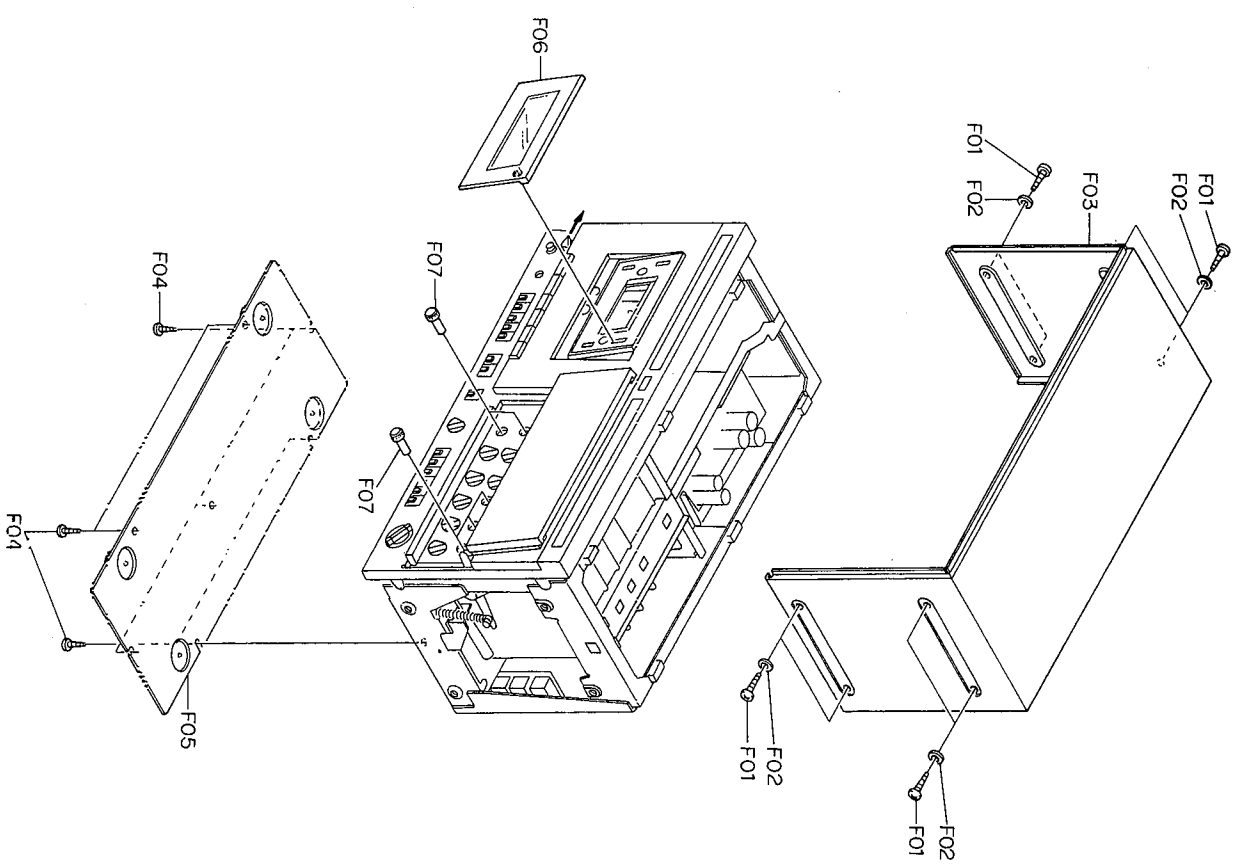

Fig. 2.1
- Refer to Fig. 2.1.
(1) Remove F01 and F02, then disassemble F03 (Top Cover Ass'y).
(1) Remove F04, then disassemble F05 (Bottom Cover Ass'y).
(1) Press the Eject Button as the arrow mark to open the Cassette Case Ass'y.
(2) Pull out F06 (Cassette Case Cover Ass'y) upwardly.
(1) Pull out F07 (Prich Control Knob, Output Level Control Knob and MIC Input Level Control Knob).
(1) Refer to Fig. 2.1. Remove Top Cover Ass'y, Bottom Cover Ass'y and Volume Knobs referring to items 2.1, 2.2 and 2.4.
(2) Open Adjustment Lid.
(3) Remove F01, then disassemble the top of F02 (Damper Arm Ass'y) from Front Panel Ass'y.
(4) Remove F03, then disassemble F04 (Front Panel Ass'y including 4 connectors).
(1) Refer to Fig. 2.1. Remove Top Cover Ass'y and Bottom Cover Ass'y referring to items 2.1. and 2.2.
(2) Disconnect 4 connectors from F13 (Auto Cal. P.C.B. Ass'y).
- (1) Refer to Fig. 2.1. Remove Top and Bottom Cover Ass'y referring to items 2.1 and 2.2.
- (2) Remove F01 and F02 (P.C.B. Holder B Ass'y), then disassemble F03 (Auto Cal. Ass'y including 4 connectors).
- (3) Remove F04 and F05 (P.C.B. Spacer), then disassemble F06 (Auto Cal. A P.C.B. Ass'y) and F07 (Auto Cal. B P.C.B. Ass'y).
- (1) Refer to Fig. 2.1. Remove Top Cover Ass'y referring to item 2.1.
- (2) Remove F08 and F09 (P.C.B. Holder A Ass'y), then disassemble F10 (Oscillator P.C.B. Ass'y), F11 (Record Eq. Amp. P.C.B. Ass'y), F12 (Playback Amp & Dolby NR P.C.B. Ass'y) and F13 (Record Dolby NR P.C.B. Ass'y).
- (2) Remove F17, then disassemble F18 (RAMM P.C.B. Ass'y).
- (1) Refer to Fig. 2.1. Remove Top Cover Ass'y and Bottom Cover Ass'y referring to items 2.1 and 2.2.
- (2) Remove F01, F02 and F03, then disassemble Rear Panel Ass'y.
- (3) Remove F04, then disassemble F05 (Power Supply Ass'y).
- (4) Remove F06, then disassemble F07 (Insulator).
- (5) Remove F08, F09 and F10, then disassemble F11 (Heat Sink) and F12 (Power Supply P.C.B. Ass'y).
- (6) Remove F13, then disassemble F14 (Fuse P.C.B. Ass'y).
- (7) Remove F15, then disassemble F16 (Power Transformer Ass'y).
- (8) Remove F17 and F18, then disassemble F19 (Power Transformer) and Transformer Holder.